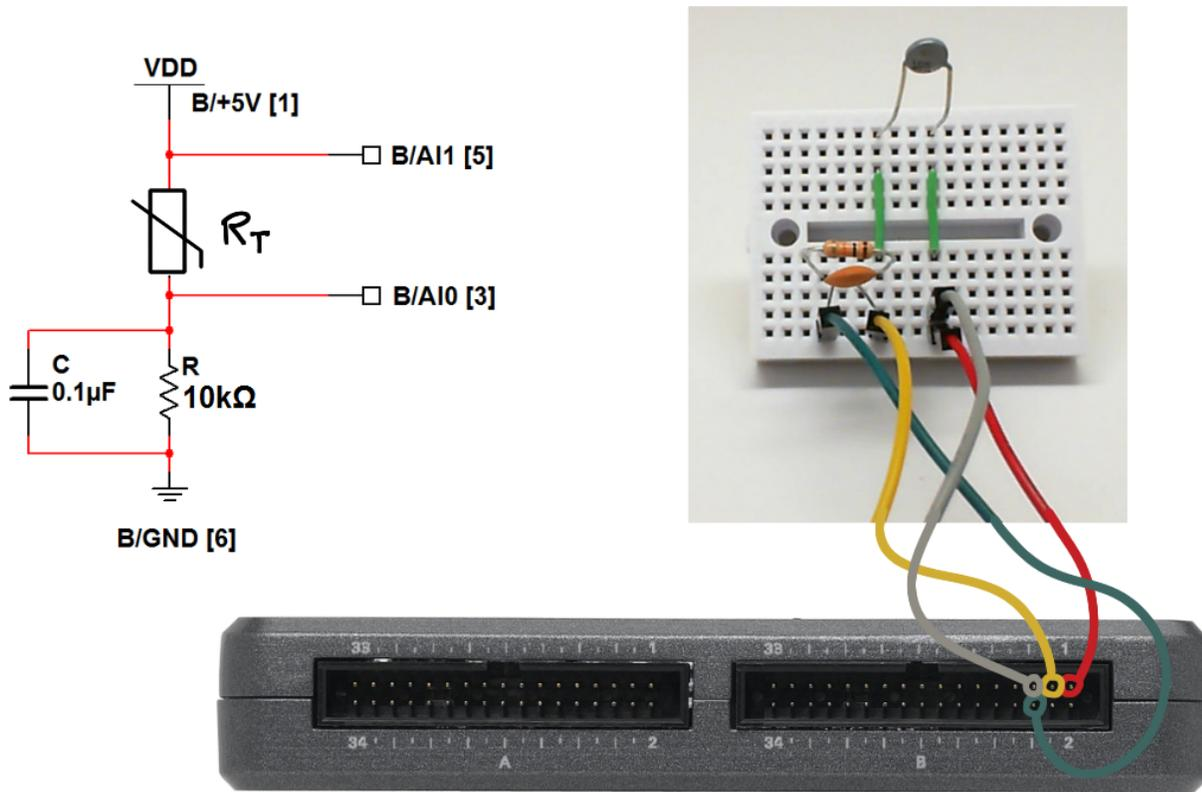

Figure 8.2: Demonstration circuit for thermistor: schematic diagram, recommended breadboard layout, and connection to NI myRIO MXP Connector B.
**Build the interface circuit:** Refer to the schematic diagram and recommended breadboard layout shown in Figure 8.2 on page 39. The interface circuit requires four connections to NI myRIO MXP Connector B: